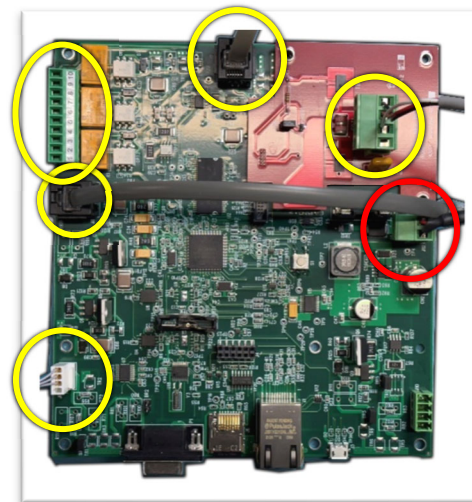

Figure 2.7
- 10) Remove the DC power cable. (See Figure 2.7; red)
- 11) Disconnect all communication cables from the MCU board. This includes the gray display cable, the printer cable (white connector), the gray 416 board cable, the relay cable connections to J9 (if applicable), and the DB-485 red board (if applicable). (See Figure 2.7; yellow)